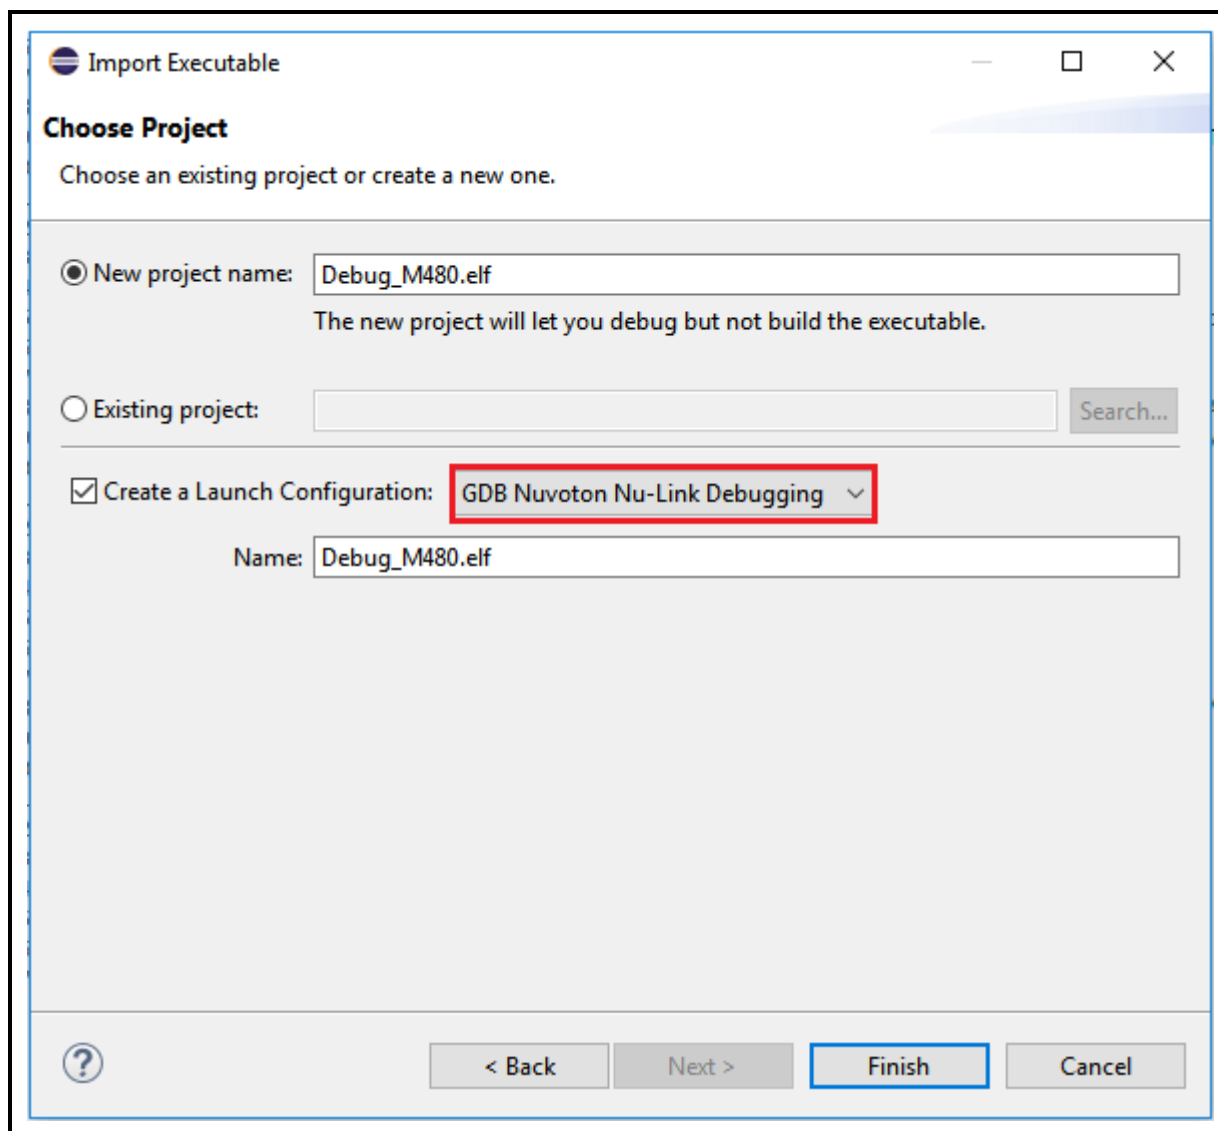

Figure 3-28 Choosing GDB Nuvoton Nu-Link Debugging
3. Choose GDB Nuvoton Nu-Link Debugging as a Launch Configuration (referring to Figure 3-28).